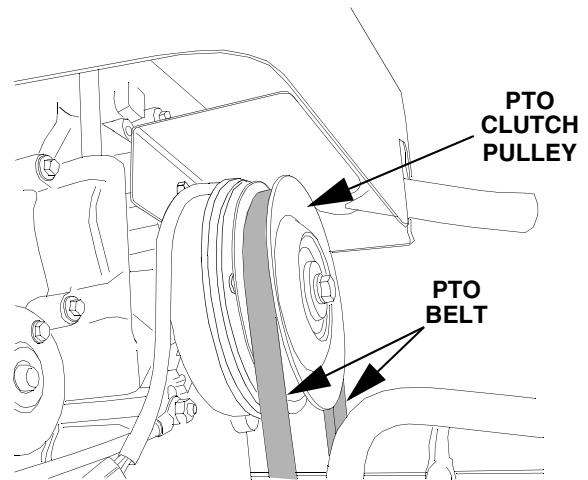

Figure 40
4. Open the tractor hood and remove the forward end of the PTO belt from the PTO clutch pulley on the front of the engine (Refer to Figure 40).